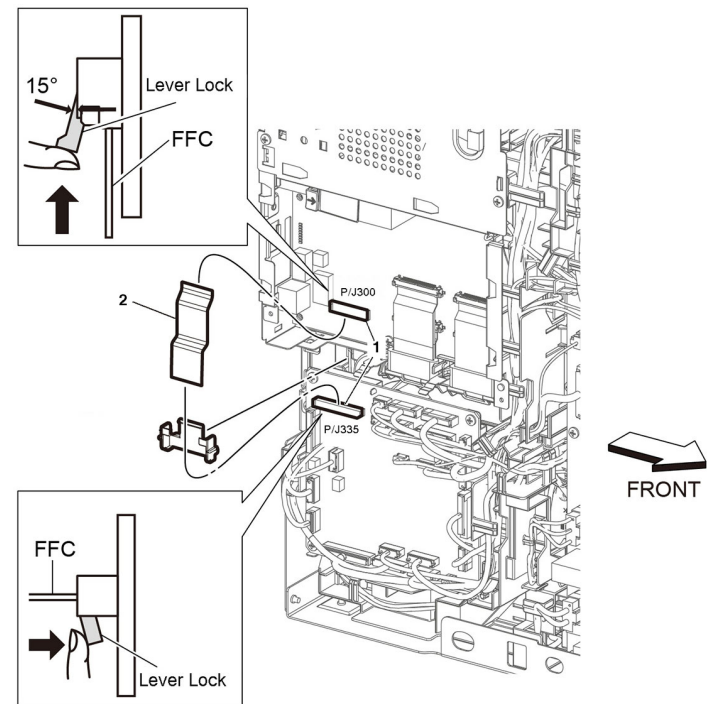

Figure 1 Remove the ESS MCU FFC.
1. Remove the MCU ESS FFC, Figure 1:
- d. Unlock connectors P/J300 and P/J335 (1), then remove the ESS MCU FFC (2), Refer to GP 44.